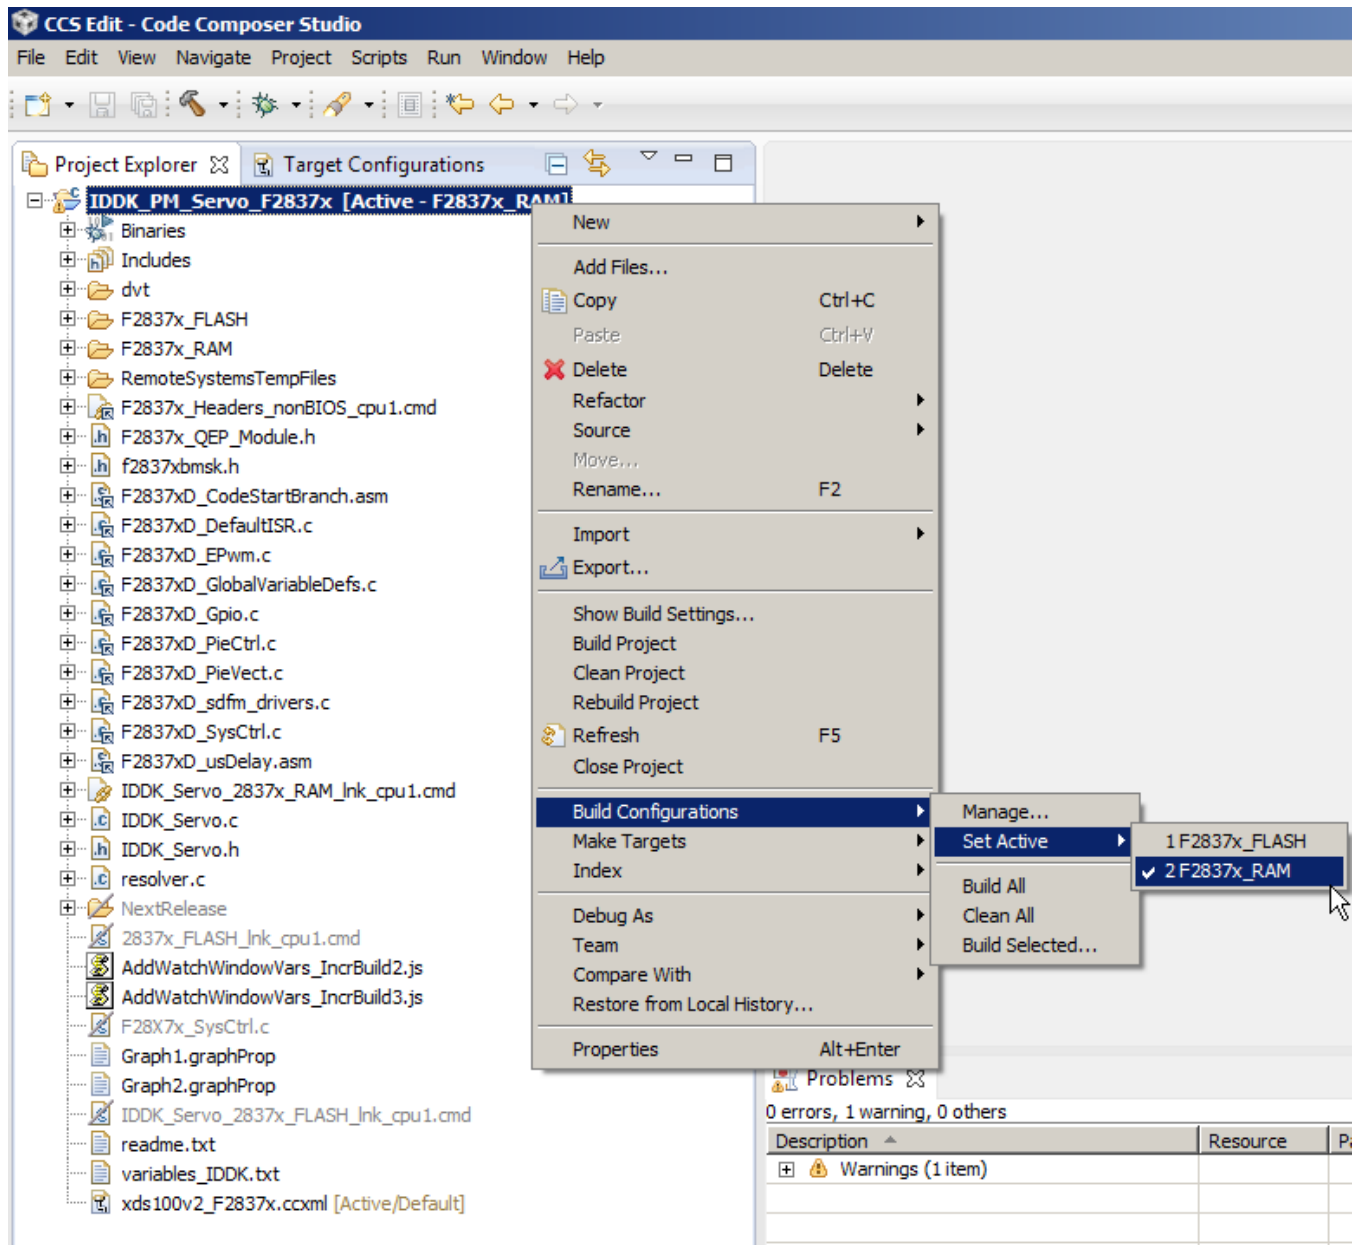

Figure 4-4. Selecting the F2837x\_RAM Configuration
8. Click the *F2837x\_RAM* configuration. (See Figure 4-4.)